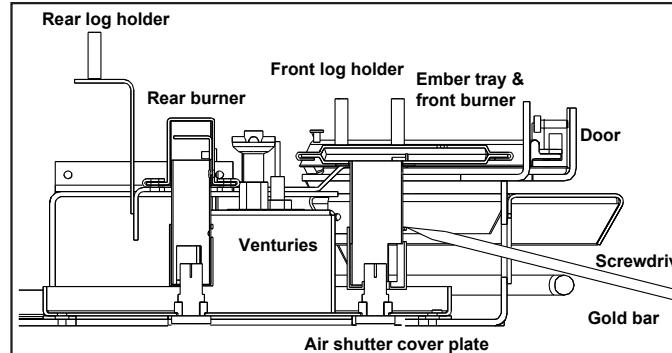

Figure 5: Venturi Adjustment.
- There is a separate venturi for each burner, see Figure 5.